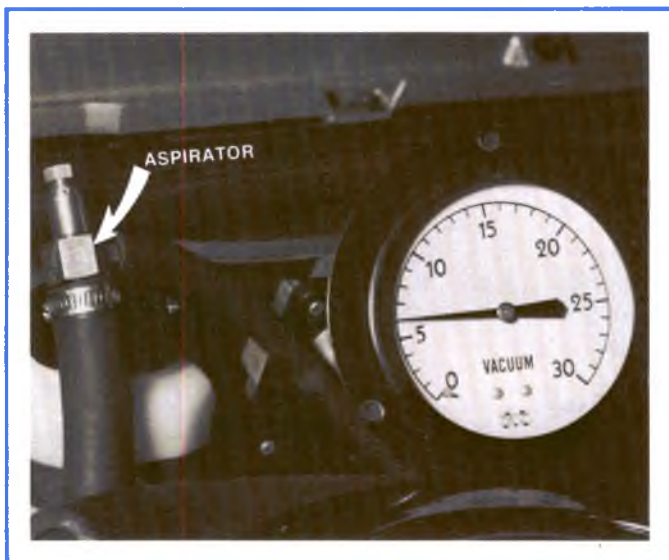

Figure 3-2, Connect a Vacuum Gauge to the Aspirator Output.
- Step 2** Connect a vacuum gauge to the "ASPIRATOR" output, POINT A (figure 3-2). Then start and run the engine at 2500 RPM, in a closed loop operation. (Check with a dwell meter). The vacuum gauge should read at least 5-inches Hg. If the vacuum is lower, remove and clean the aspirator with mineral spirits and re-check.